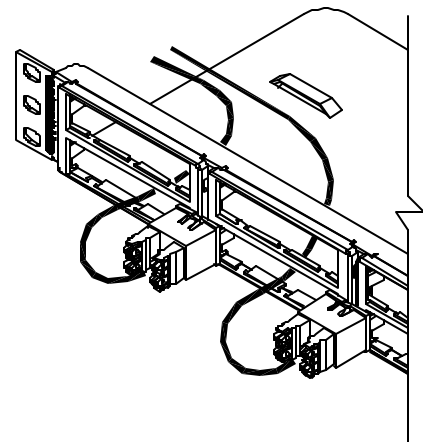

FIGURE 2
1. PULL CABLE THROUGH BEZEL WHERE THE MODULE WILL BE LOCATED. PLACE MODULE WITH FRONT FACE AGAINST THE NEAREST SUITABLE TERMINATION LOCATION (FIGURE 2). TERMINATE PER WIRING AND CABLING INSTRUCTIONS, THEN FLIP MODULE OVER AND SNAP INTO PLACE IN BEZEL. REPEAT FOR ALL MODULES.